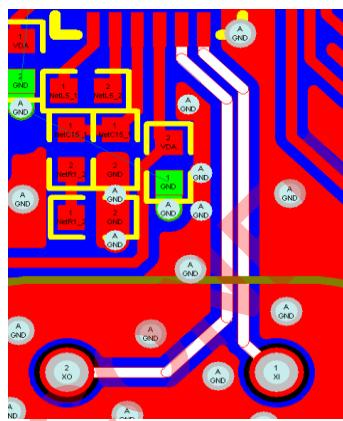

Fig. 2.2c X'tal trace
5. The X'tal traces should be as short as possible and are better to be isolated by ground via. In addition, to minimize cross talk issue, components placement shall be as far away to X'tal trace as possible. Please refer to the white traces in Fig. 2.2c.